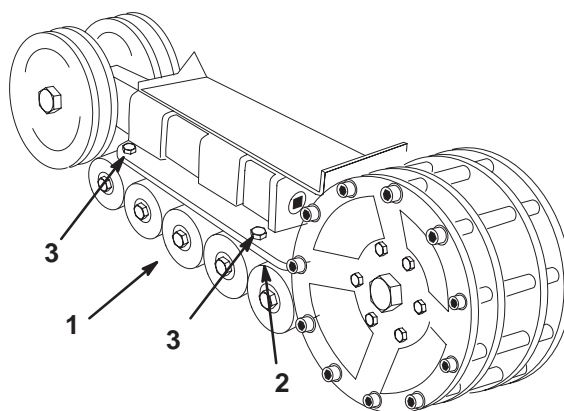

Figure 3
1. Remove the 4 bolts and nuts securing the lower track guide which contains the road wheels, and remove it (Fig. 3).
2. Remove the 10 road wheels and discard them, saving the fasteners for later use (Fig. 3).